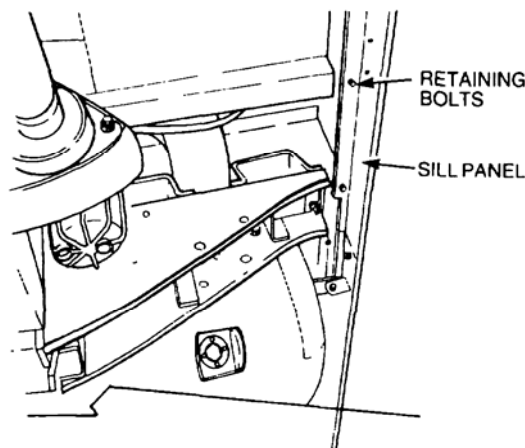

Figure 12 Removal of the Sill
- r. Remove the bolts, nuts and washers securing the sill panel to the body and stay (Figure 12).